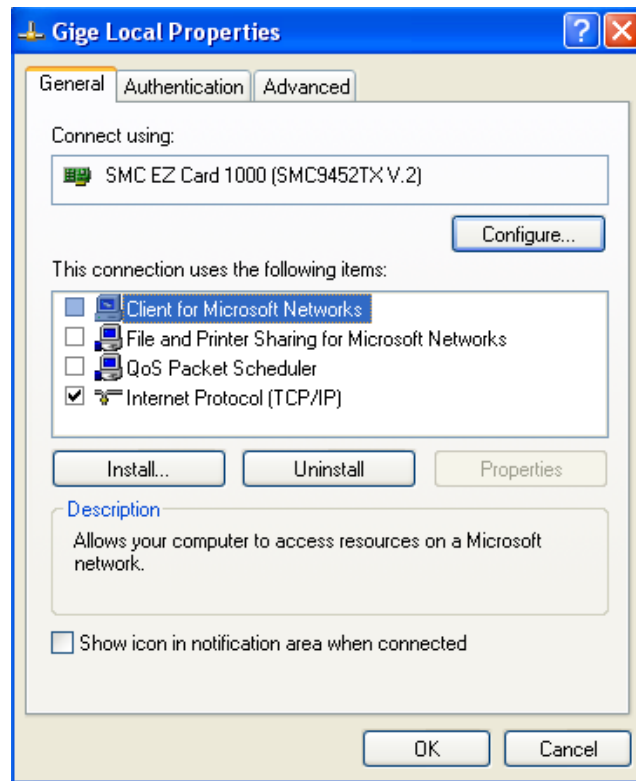

Figure 8. Network card main properties window.
- Open the Network Connections Dialog as follows: From the Windows desktop select **start**, then select **Control Panel**, then double click on the **Network Connections** icon. Double click the relevant network card listed or right-click the relevant network card and select **Properties**. This will open the properties window for your network card. See Figure 8.
- From the main properties dialog as in Figure 8, make sure that only the **Internet Protocol (TCP/IP)** check box is selected then click **OK**. The card is now optimized for use with the Prosilica GB camera.